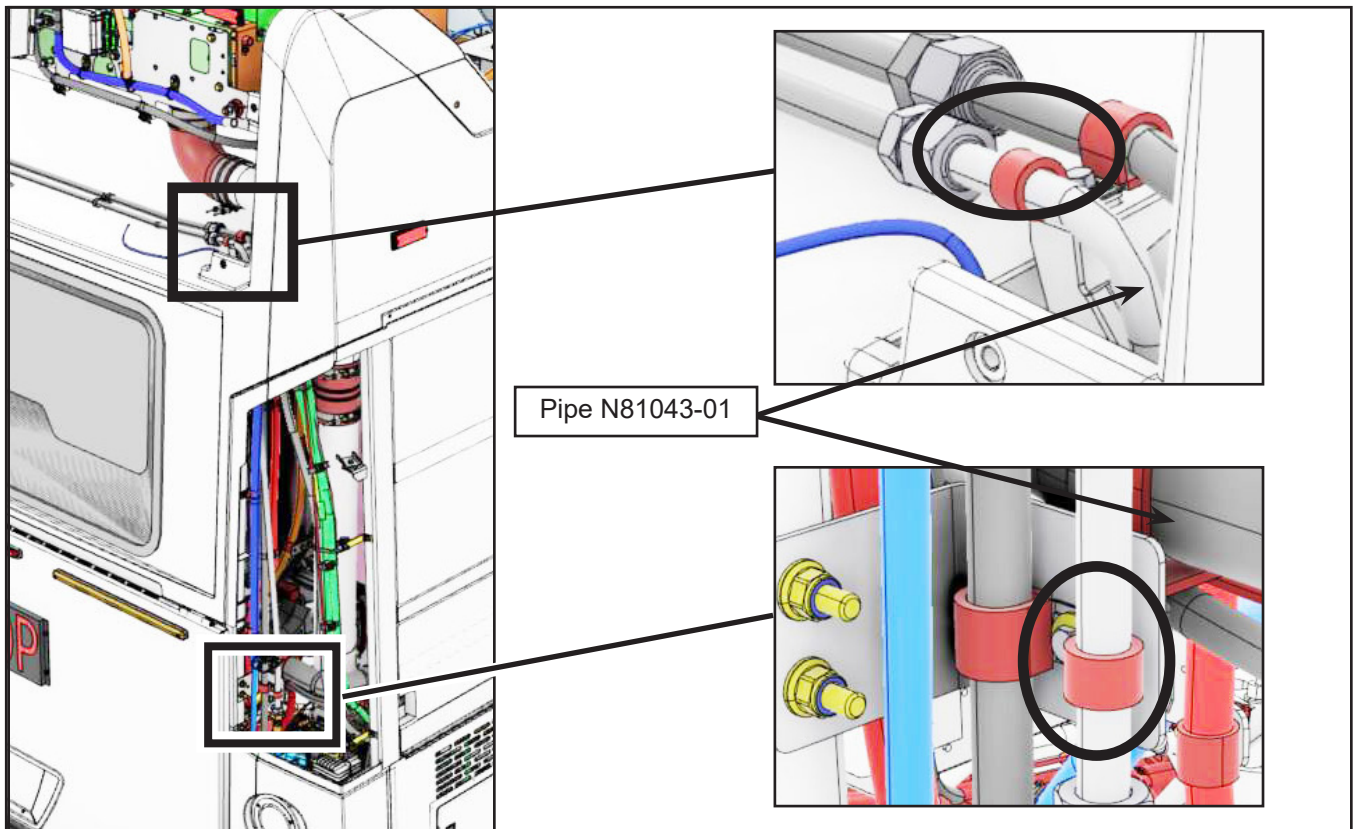

Figure 5 - Remove P-Clamps to Free Pipe N81043-01
- 2.6. Remove the 2 P-clamps securing the pipe N81043-01 (see Figure 5).